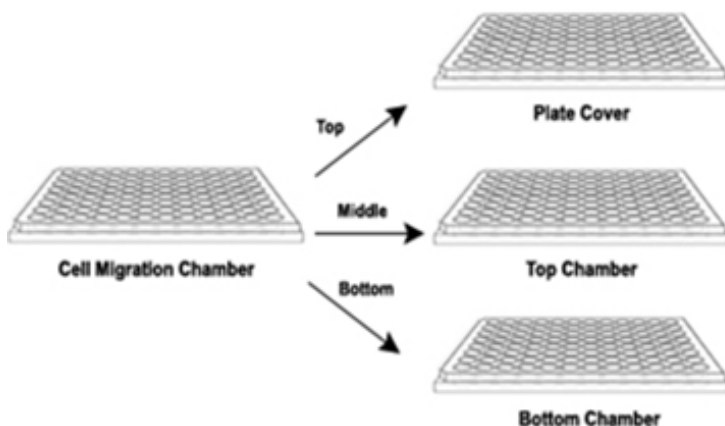

Figure 1. Cell Invasion plate: The cells are added to the Top Chamber and the Control Invasion Inducer or chemoattractant are added to the Bottom Chamber.
6. Under sterile conditions, disassemble the Cell Chamber (96 x 8 μ m)/Cell Migration Chamber (Figure 1) and carefully remove the plate cover and the top chamber.